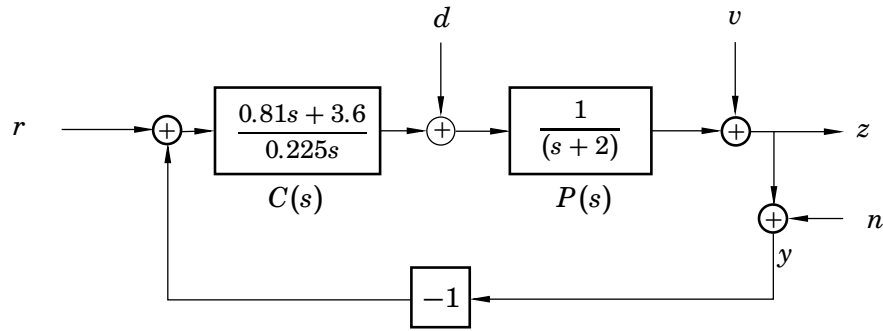

Figure 3.3 System in Problem 3.3.
- 3.3** A feedback system is shown in Figure 3.3.